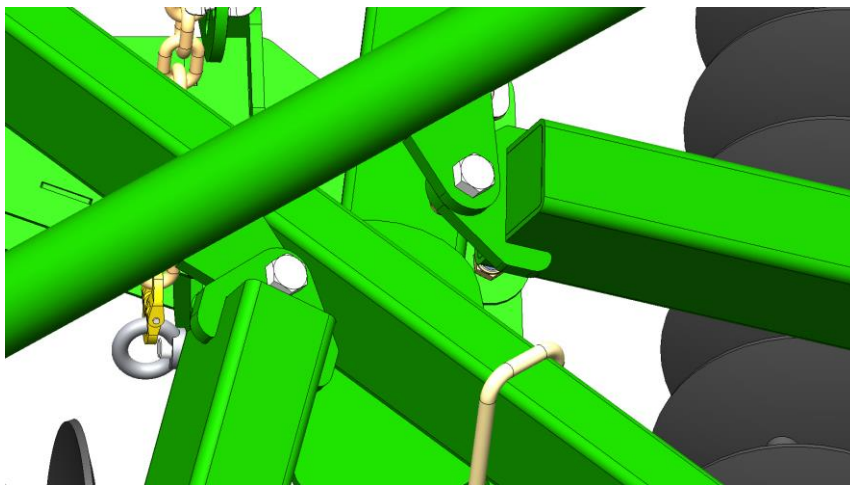

Figure 5: Detail showing lug position for LH/RH axle arm mounting of 1410-14
NOTE: Left and Right Axle Arms are identical, but are mounted with lug above (LH) and below (RH) as shown in Figure 5.